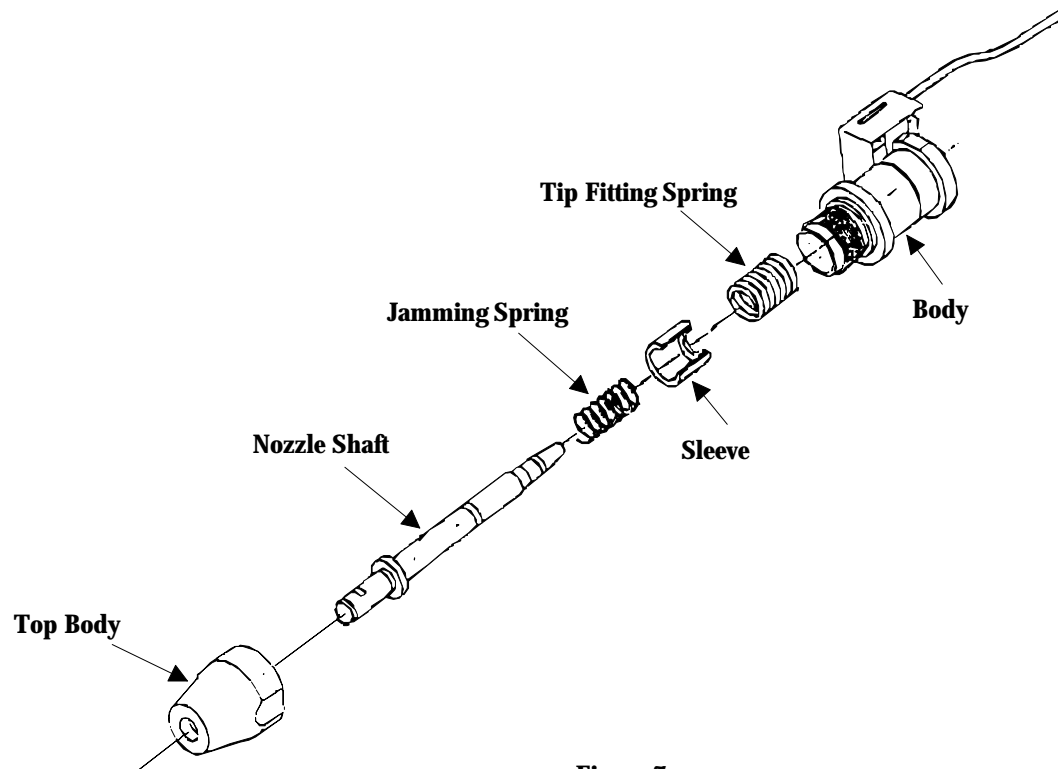

Figure 7
- (refer to **figure 7**) Remove the nozzle shaft, jamming spring, sleeve, and tip fitting spring. The nozzle shaft should slide freely through the top body.
- (refer to **figure 7**) Re-install the tip fitting spring (**heavy spring**), (**Extremely important that the jamming spring fits inside of the sleeve**) sleeve, jamming spring (light **spring**), one-piece nozzle shaft, and top body.